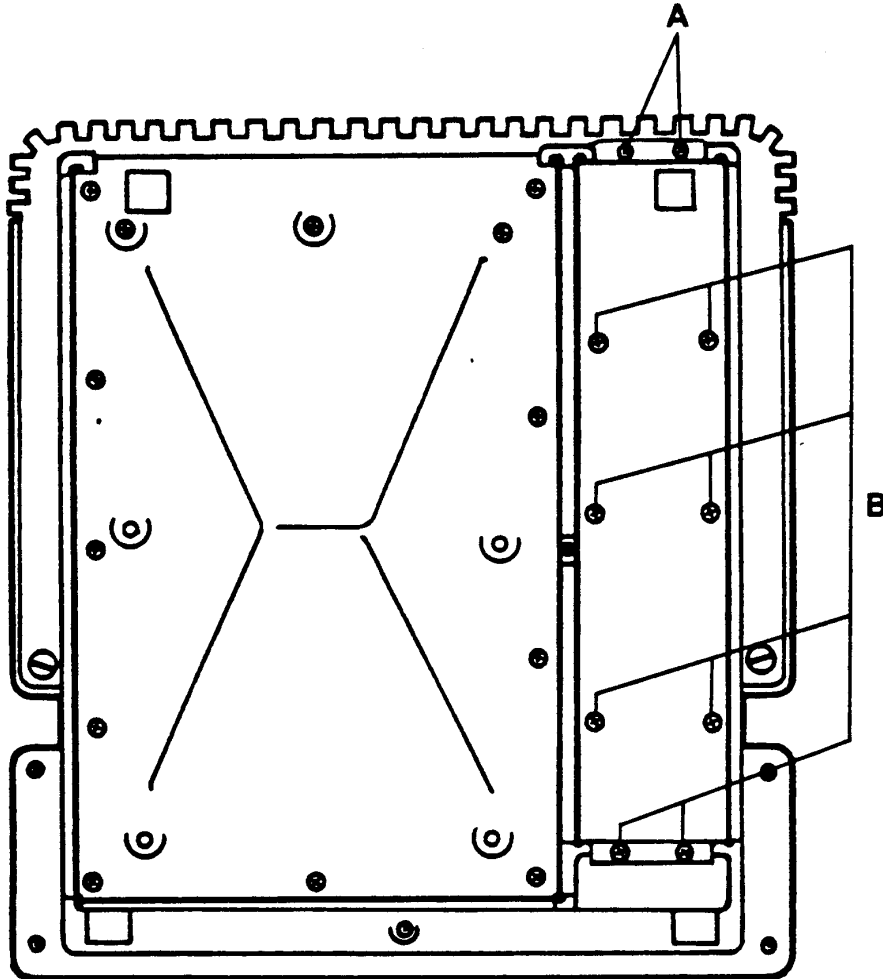

FIGURE 6.1
4. Loosen (Don't Remove!) the two Phillips head screws located on the rear edge of the power supply bottom cover, near the on/off switch and power supply receptacle. Refer to Figure 6.1 item A.
5. Locate and loosen the eight (8) screws securing the power supply bottom to the chassis. Refer to Figure 6.1 item B. These screws may be captured and if so should not come free of the assembly.